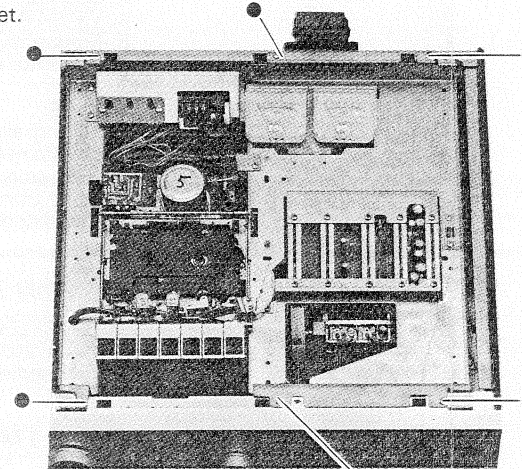
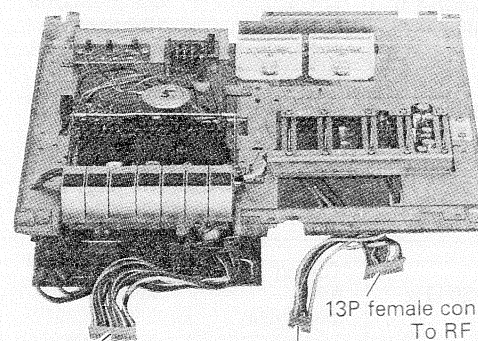

Figure 6
Figure 7
- Remove the six screws marked (●) as shown in figure 6 and disconnect two 13P female connectors and a 7P female connector from their male connectors as shown in figure 7 and 8.